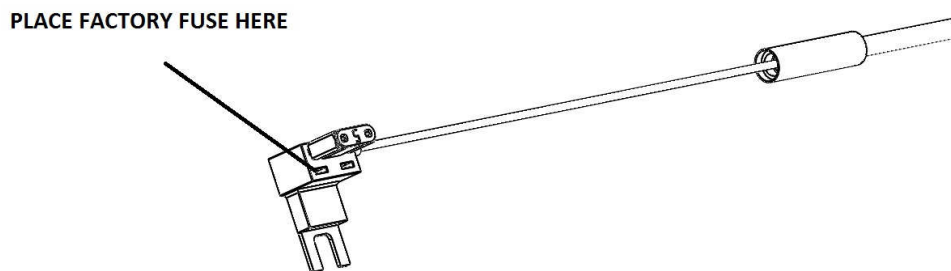

FIGURE 1-17
22. Locate the fuse box and remove the top cover to gain access to the fuses. Using a voltmeter or test light, find a fuse that is "hot" when the key is in the "on" position. Remove the selected fuse and replace it with the mini-fuse tap. Take the factory fuse you just removed and place it in the empty spot on the fuse tap. It may be necessary to trim the fuse box lid to clear the fuse tap and wire. **FIGURE 1-17**